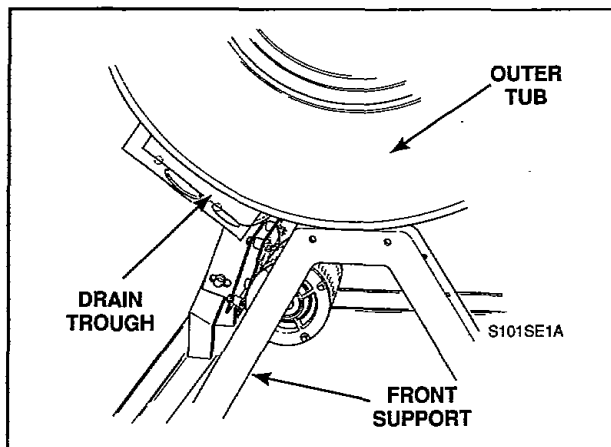

Figure 44
- o. Grasp outer tub at dispenser opening and loading door opening, rotate clockwise far enough for drain trough to clear front support, *Figure 44*, and pull outer tub off cylinder.
- Grasp outer tub at dispenser opening and loading door opening, rotate clockwise far enough for drain trough to clear front support, *Figure 44*, and pull outer tub off cylinder.